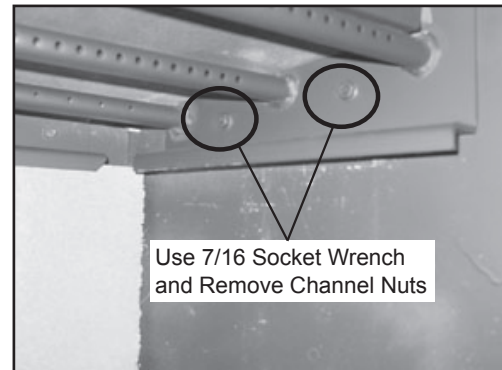

Figure 25.3
3. Locate the 2 channel nuts and 2 bolts inside of chamber and remove using a 7/16 socket wrench for the nuts and a 3/8 socket wrench for the bolts (Figure 25.3).